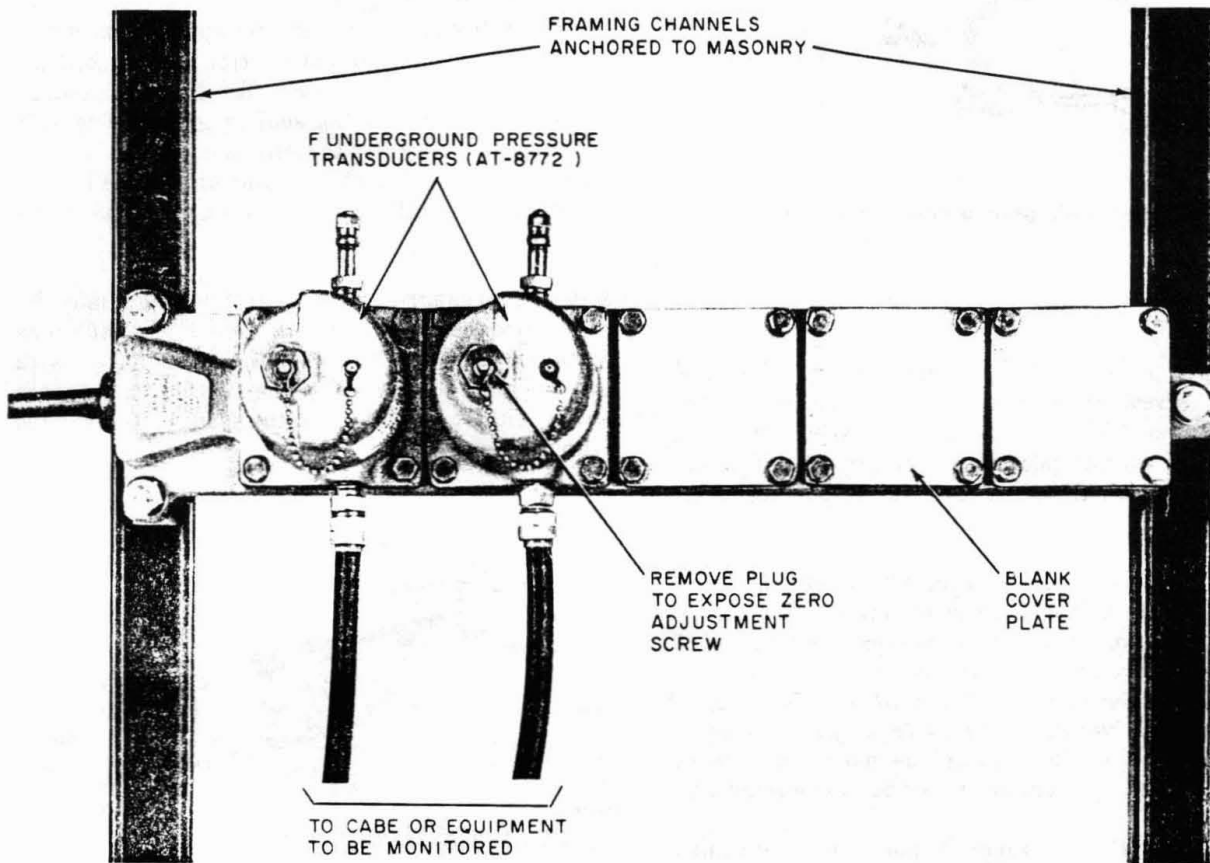

Fig. 3—C Transducer Housing Mounted on Framing Channels
5.11 The housings are designed to be mounted on framing channels (Fig. 3). The following are furnished with each housing:
- Mounting bolts and nuts, three (3) each for mounting housing on framing channels.